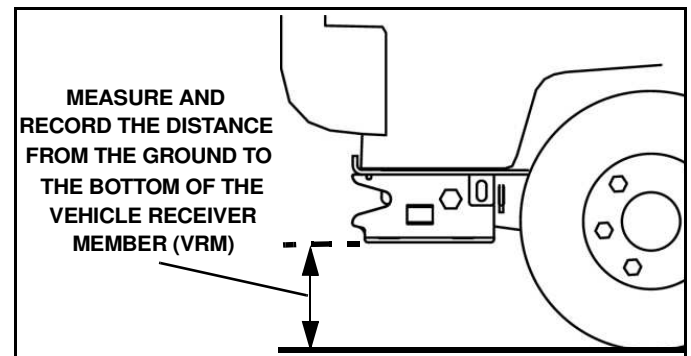

Figure 1-8
10. With the truck parked on a flat level surface, measure and record the distance from the ground to the bottom of the Vehicle Receiver Member (VRM). (See Figure 1-8).